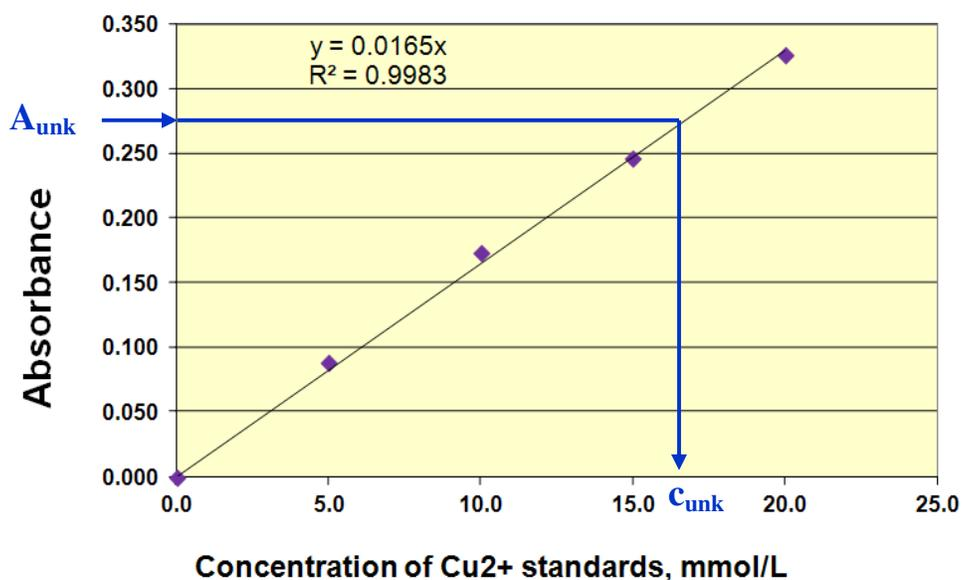

Figure 2. Example of a standard curve
Equation 1 tells us that a plot of absorbance, A , on the y -axis against concentration of standard solutions, c , on the x -axis will yield a straight line with a slope equal to (ϵb) . Such plot is called a **standard curve**, which is obtained by measuring the absorbance signal from a series of standard solutions of known concentration. The standard curve is then used to determine the concentration of dye (c_{unk}) in the sample solutions by locating the absorbance measurement of the unknown on the y -axis (A_{unk}) and following a line until it intersects the standard curve. The corresponding value on the x -axis is the concentration of substance in the unknown sample (Figure 2). This process is called linear interpolation.
1. Using the line equation $y = 0.0165x$ in Figure 2, where y = absorbance and x = concentration in mmol/L, calculate the concentration of Cu^{2+} in a sample whose absorbance is 0.275. Show your work below and include the correct unit for concentration.